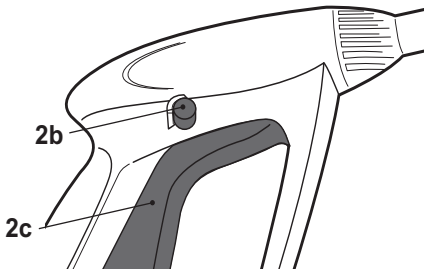

Fig. 15, locked position, the trigger is disabled
- > When the trigger lock (2b) is in locking position, the spray gun trigger (2c) will be disabled (Fig. 15). Use the trigger lock, when the product is not in use, when it is left unattended or during assembly of additional accessories.